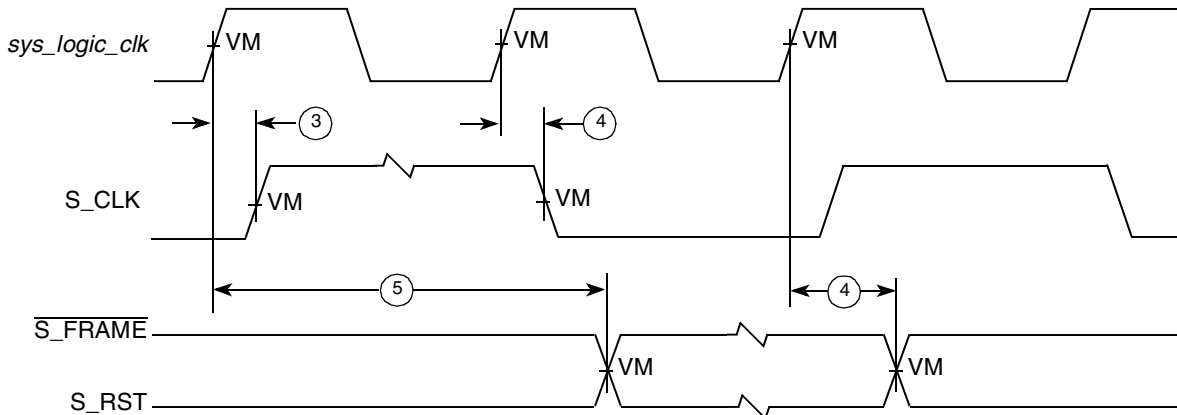
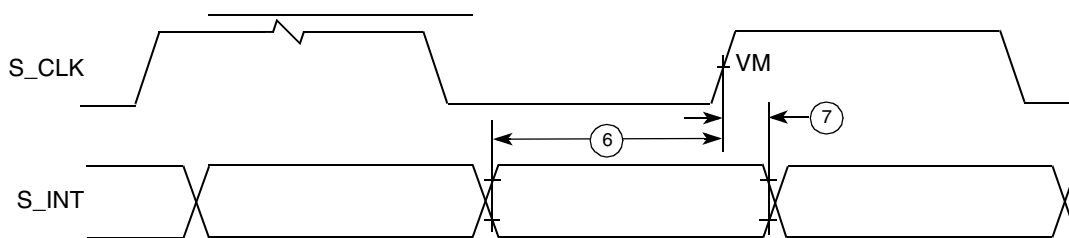

Figure 18. PIC Serial Interrupt Mode Output Timing Diagram
Figure 19. PIC Serial Interrupt Mode Input Timing Diagram
2. S_RST, $\overline{S_FRAME}$, and S_INT shown in Figure 18 and Figure 19, depict timing relationships to *sys_logic_clk* and S_CLK and do not describe functional relationships between S_RST, $\overline{S_FRAME}$, and S_INT. The *MPC8245 Integrated Processor Reference Manual* describes the functional relationships between these signals.